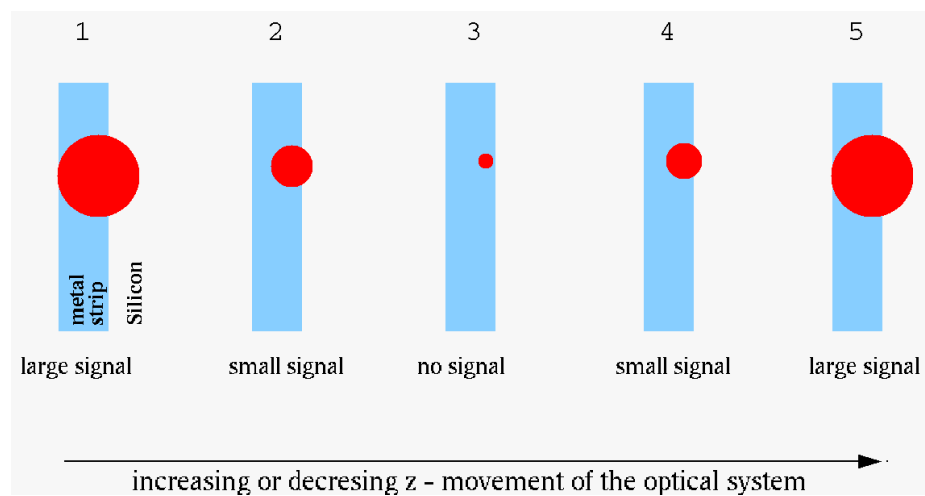

Figure 2: Focus finding procedure; movement of optical system causes changes of beam spot size (at fixed x/y position of the beam) and by that the signal.
5. Fix x (or y) to approximately position as indicated in Fig. 2. If the centre of spot hits the metal then moving in the direction of focus will reduce the signal as indicated. If the centre of the spot hits the silicon the curve will be reversed (max signal -> max. signal -> small signal). In general it is easier to observe disappearance of the signal.
Figure 4: (left) FWHM of the red beam at different positions of the optical system (z axis) - refers to Figs. 2,3. Note that in this case the neck of the beam at this beam expander aperture (iris) is a few hundred microns. (right) An example of the FWHM of the IR beam measured on the pad detector.